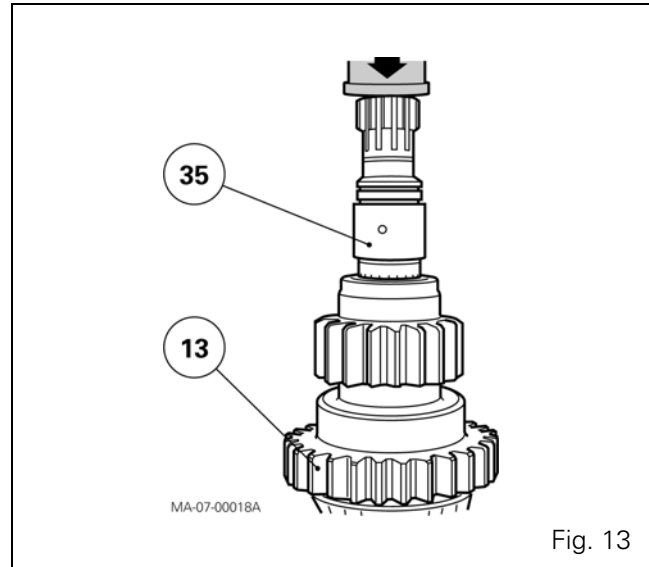

Fig. 13
102. Separate the pinion (13) from the shaft (35) using a press and a suitable fixture (Fig. 13).